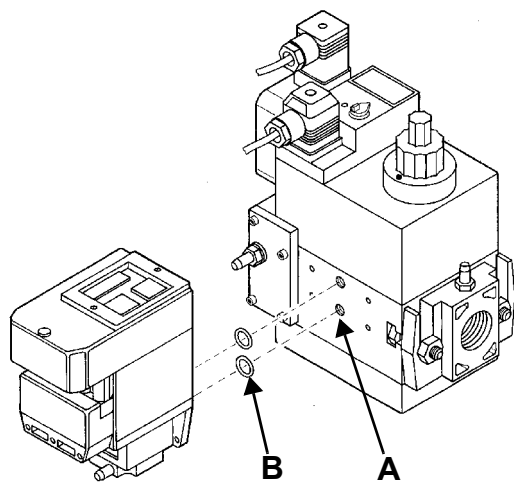
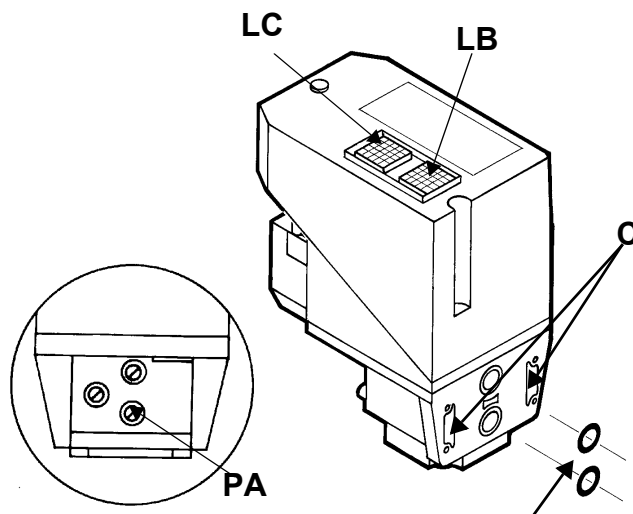

Fig. 35
Fig. 36
- 3 remove the MultiBloc's screw plugs (Fig. 35-A);
- 4 insert sealing rings (10,5 x 2,25) into VPS 504 (Fig. 36-B, Fig. 35-B)
- 5 Torque screws 3, 4, 5, 6 (M4 x16) Fig. 35-C
When wishing to monitor the test, install a pressure gauge ranged to that of the pressure supply point **PA** (Fig. 36). If the test cycle is satisfactory, after a few seconds the consent light **LC** (yellow) comes on. In the opposite case the lockout light **LB** (red) comes on. To restart it is necessary to reset the appliance by pressing the illuminated pushbutton **LB**.